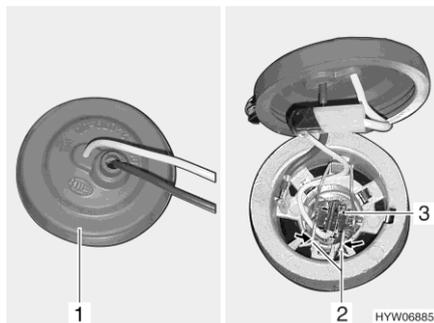

Fig. 162 Fog light
- Put your hand behind the fog light and remove rubber cap (Fig. 162,1) from lamp housing.
- Press metal clip (Fig. 162,2) together and release from holder.
- Remove bulb (Fig. 162,3) with cable from lamp housing.